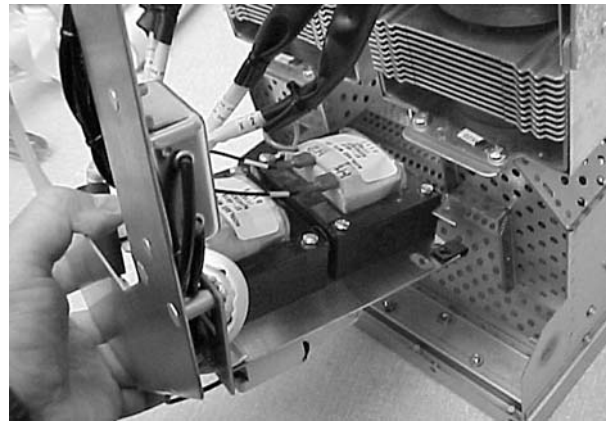

Figure 4-12 Transformer and Connector Bracket
7. See Figure 4-12. Pull the the transformer and connector bracket from the lamphead base